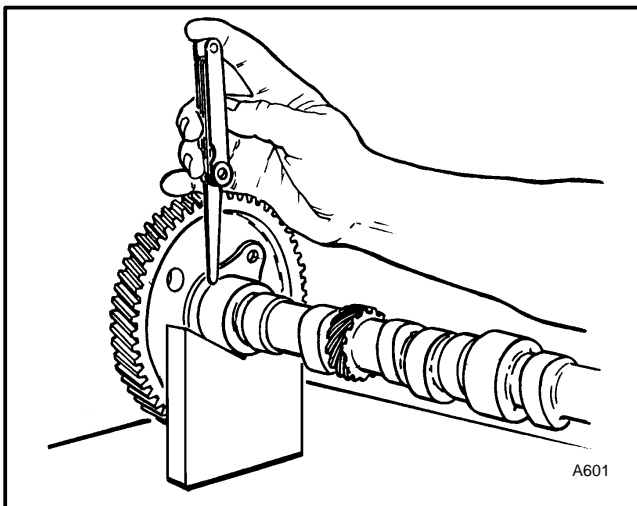

FIGURE 17. CHECK THE CLEARANCE BETWEEN THRUST PLATE AND THE CAMSHAFT
1. Measure the amount of clearance between the thrust plate and the camshaft as shown in FIGURE 17. If the clearance is greater than 0.203 mm (0.008 in), replace the thrust plate.